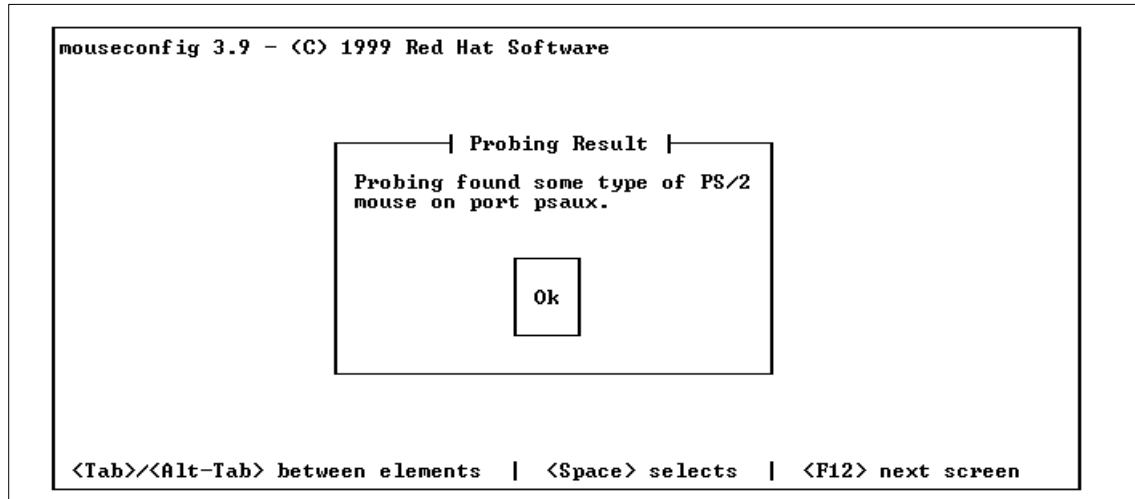
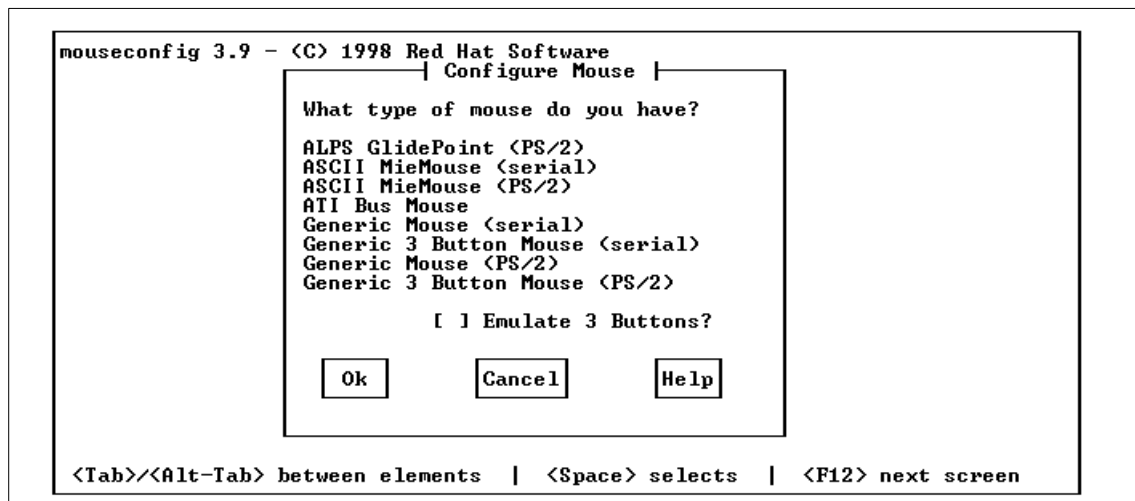

Figure 39. Mouse Setting - 1
Figure 40. Mouse Setting - 2
19. Select a mouse type. We chose a **Generic 3 Button Mouse (PS2)**. If you have a 3-button mouse, there is no need to check the Emulate 3 buttons? option (see Figure 39 and Figure 40).